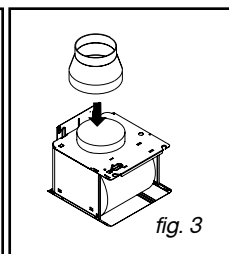

fig. 3
– If a 125-mm flue is being installed, use the adapter provided (fig. 3).